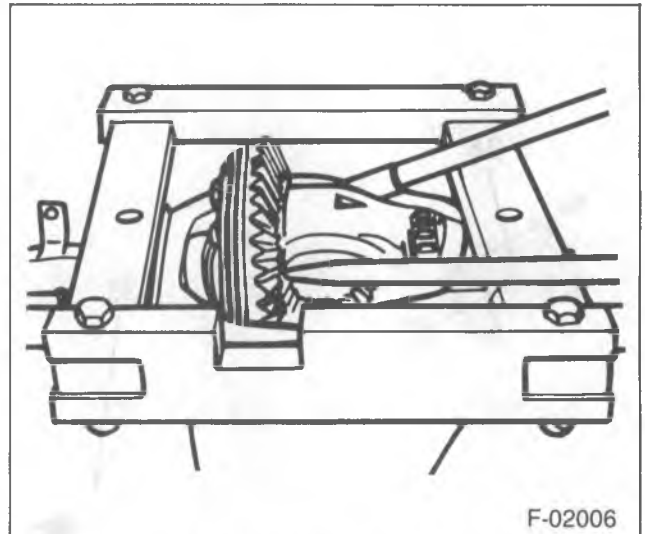
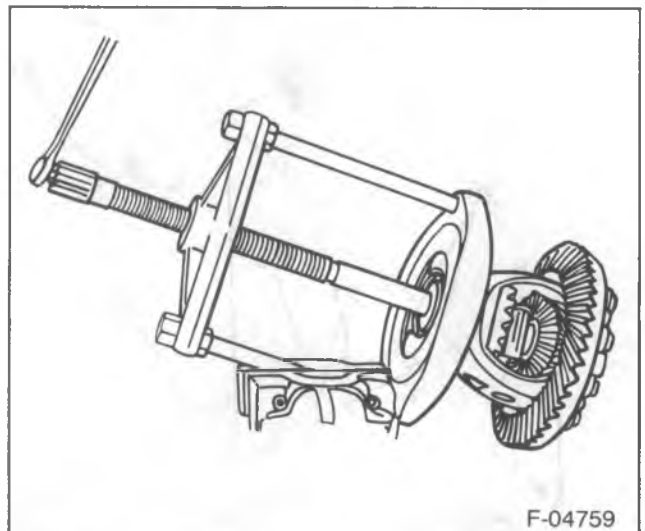
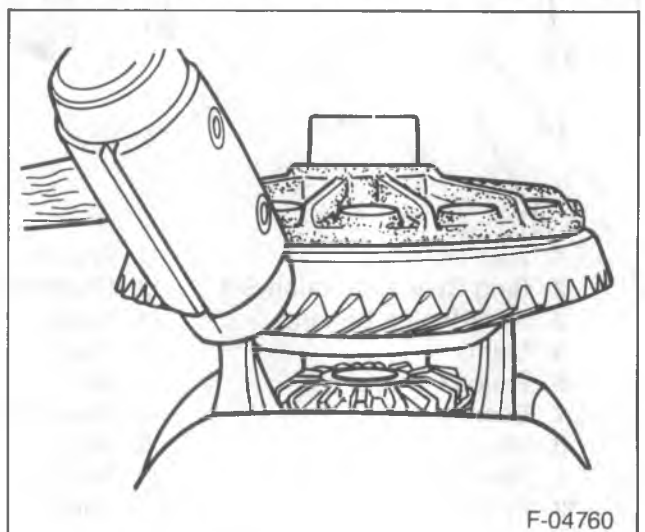

Figure 5—Removing the Differential
Figure 6—Removing the Differential Side Bearings
Figure 7—Removing the Ring Gear
- 5. Differential case (22) from the carrier (1) using two pry bars (figure 5).
- 6. The spreader J 24385-01 from the carrier (1).
- 7. Bearing cups (20).
- 8. Differential side bearings (20) using J 29721, J 29721-70, and J 8107-3 (figure 6).
- 9. Differential shims (21).
- 10. Ring gear bolts (23).
- Place shop towels over the vice jaws. Put the differential case in the vice (figure 7).